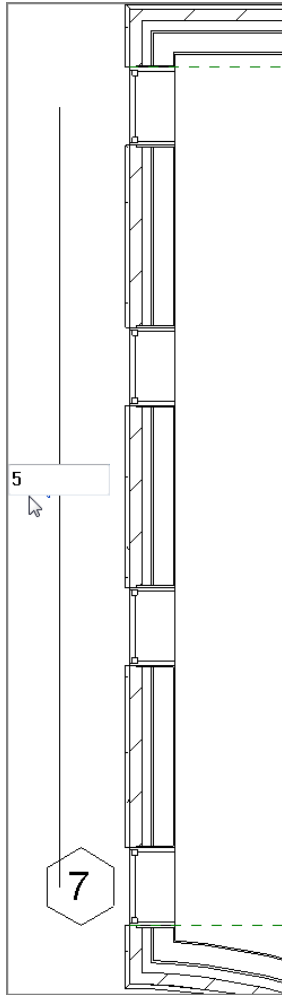

FIGURE 4.23: Changing the number of items in the array. You can always come back to the arrayed group and change this value at any time.
18. After you pick the second point, you'll have to wait a moment; then Revit evenly fills the void with the two additional windows. Revit also gives you the option of adding more windows. Enter a value of 5, and press Enter (see Figure 4.23).